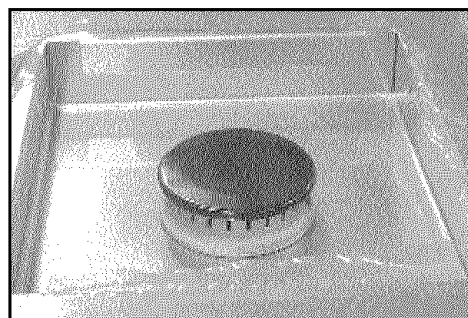

Fig. 22b
2. Install burner cap onto burner (See Fig. 22b)